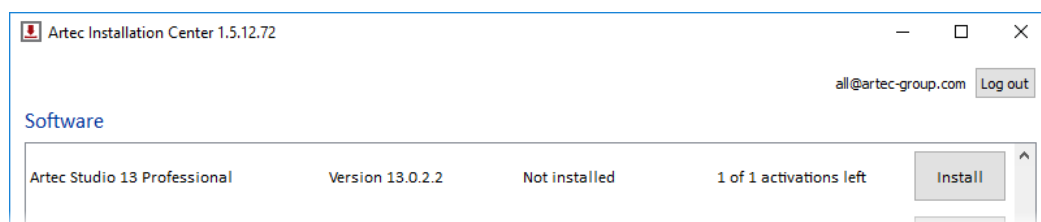

Figure 13: Artec Installation Center is ready to install Artec Studio.
- Through Artec Installation Center (either during the installation process or by clicking *Install* in the application, as Figure 13 shows)